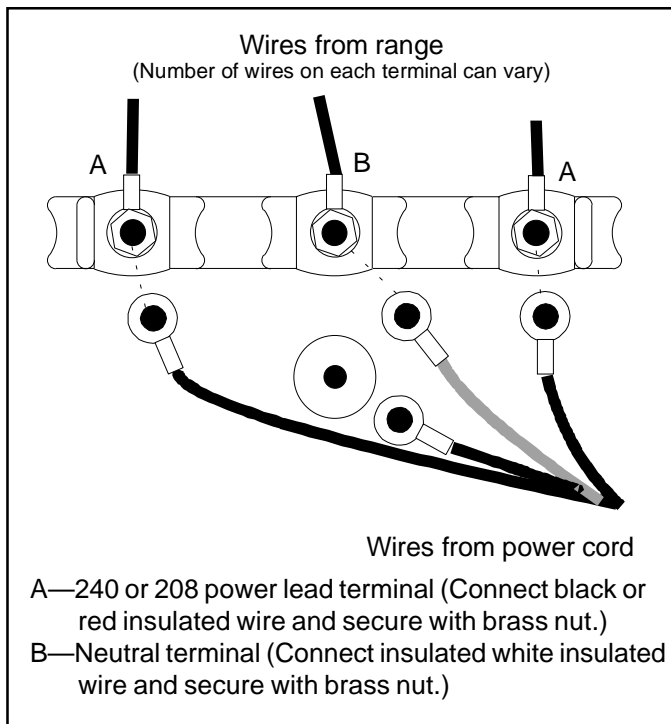

Figure 13
5. Attach cord neutral (center) or white wire to center terminal on terminal block. Secure with hex nuts provided. See Figure 13.